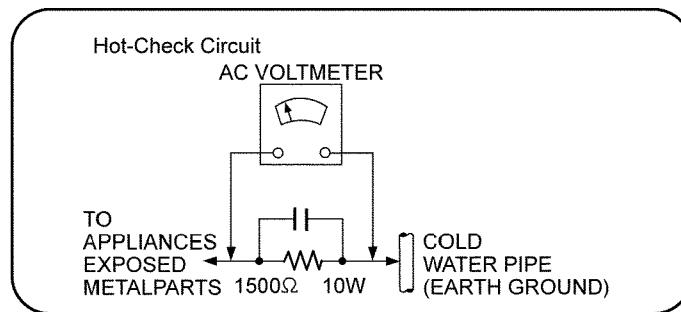

Figure. 1
2. Connect a  $1.5K\Omega$ , 10 watts resistor, in parallel with a  $0.15\mu F$  capacitors, between each exposed metallic part on the set and a good earth ground such as a water pipe, as shown in Figure 1.